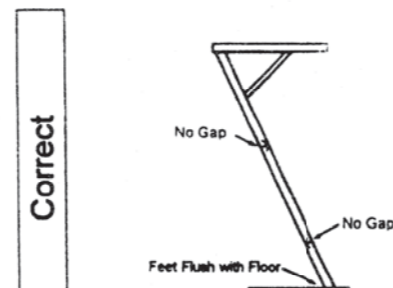
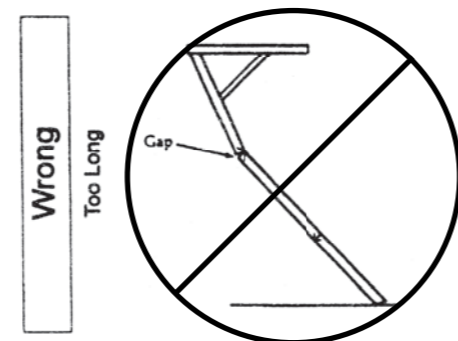
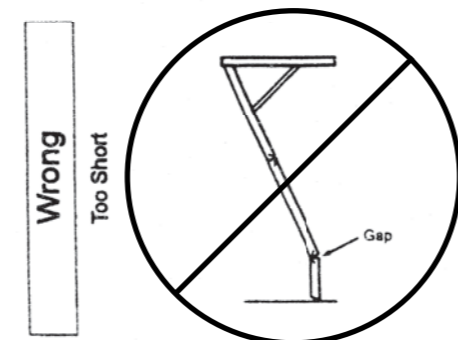

Fig. 8
Fig. 9
Fig. 10
- Step 5** Check to make sure the stairs fit flush with the floor and that all joints are tight with no gaps (Fig. 8). If the stairs are too long (Fig. 9), trim them again. If the stairs are too short (Fig.10), do not use them. Contact your vendor or The Marwin Company.